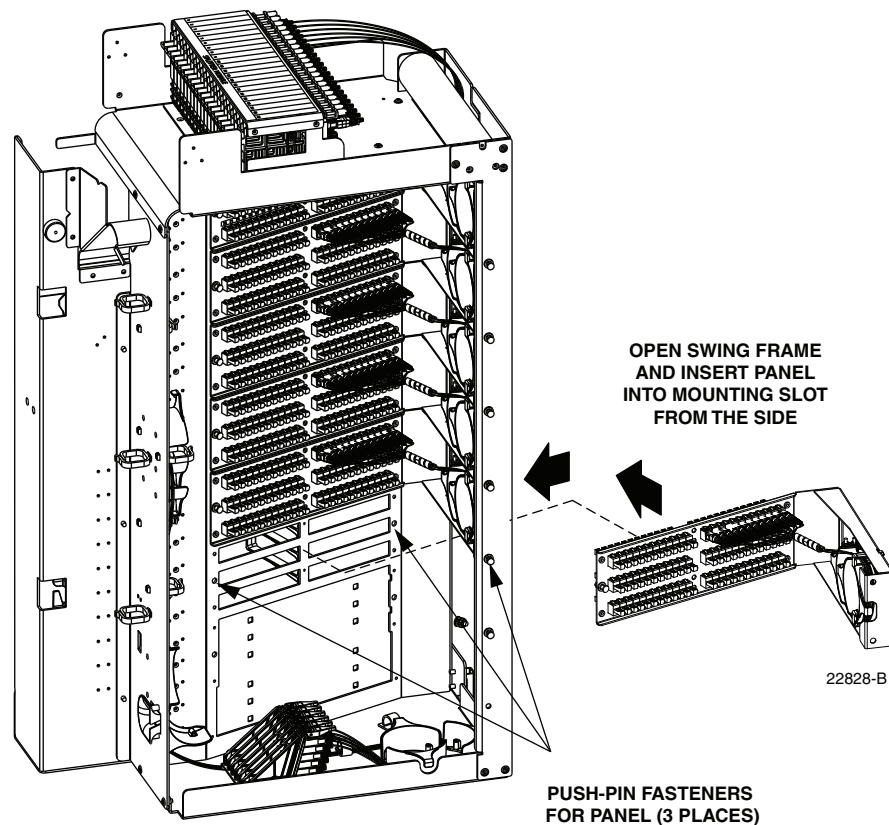

Figure 65. Placing Distribution Panel In Position For Mounting
3. Place the distribution panel in position for mounting on the **rear** side of the swingframe as shown in Figure 65.